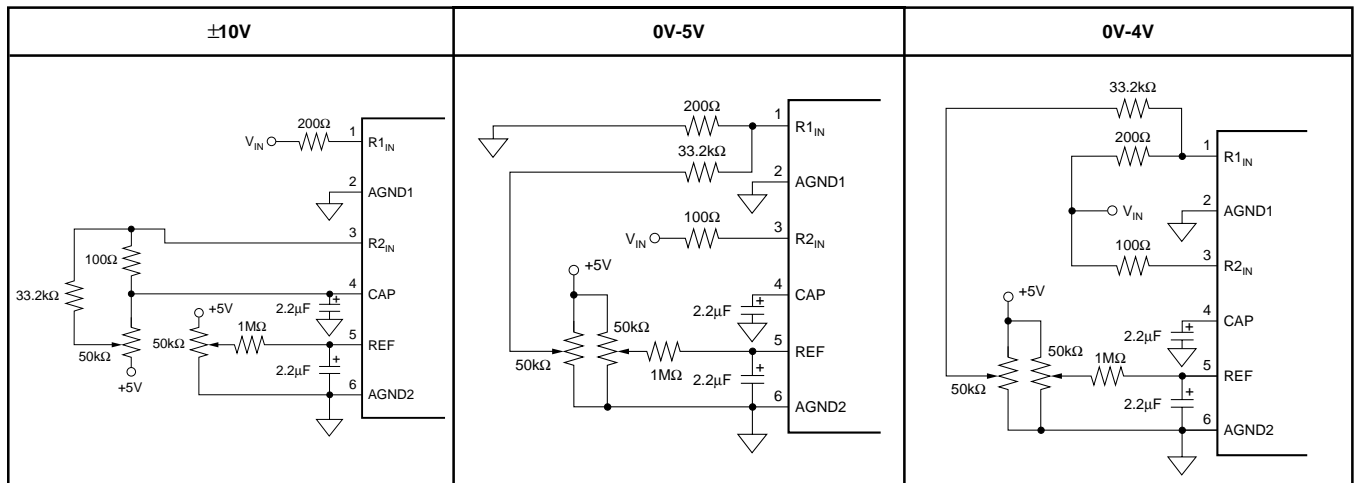
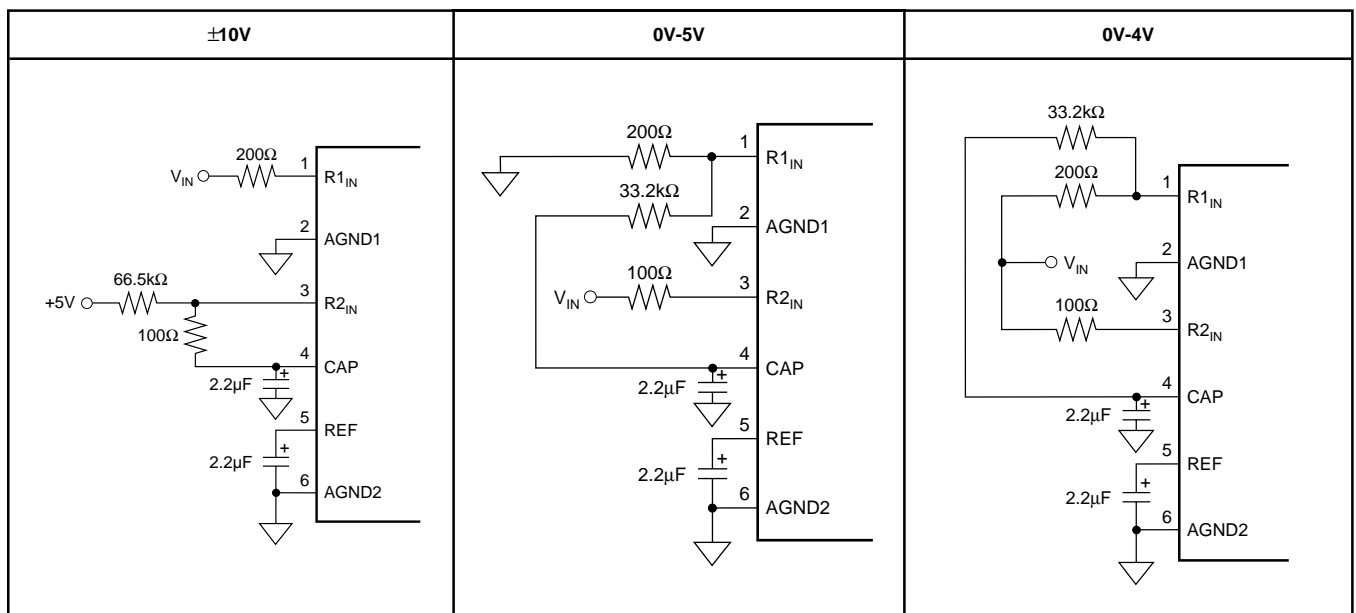
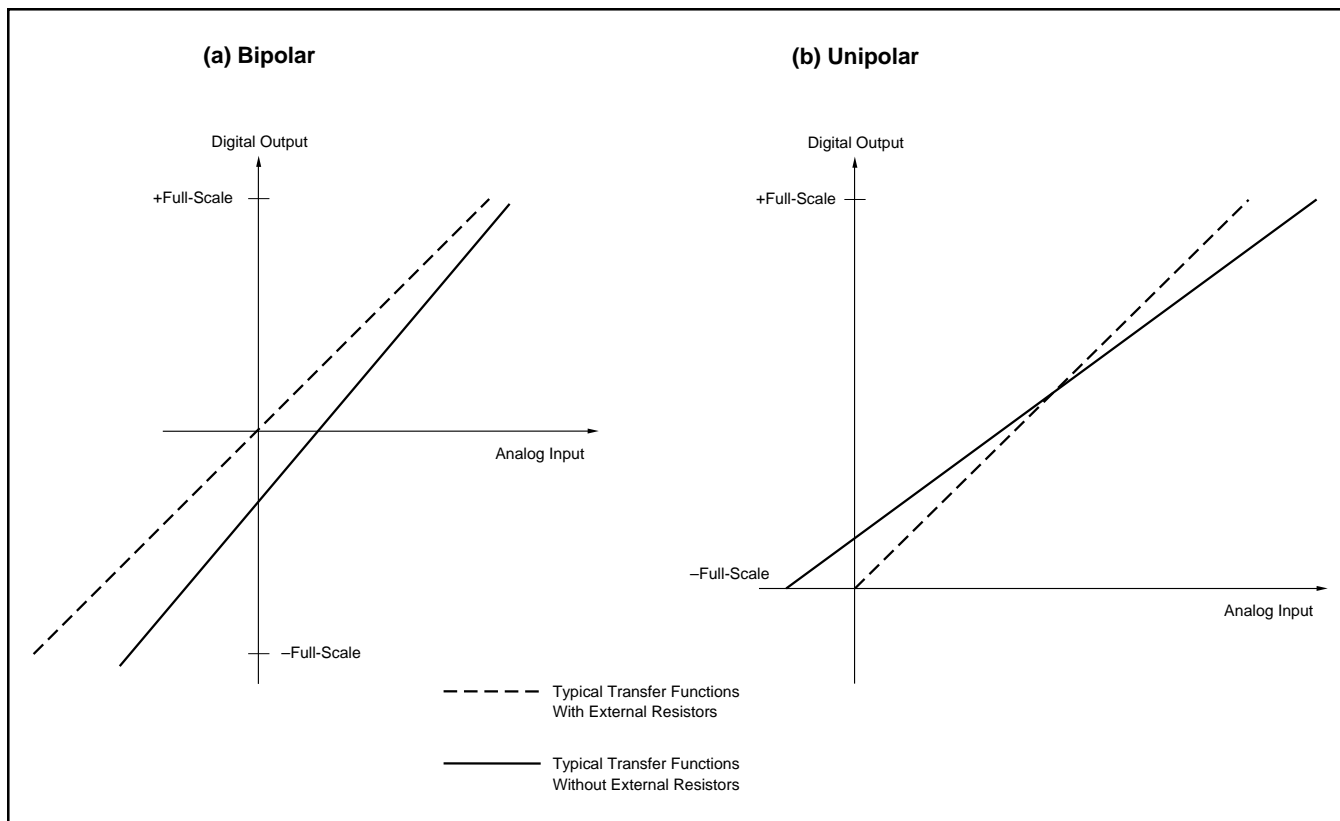

FIGURE 7a. Circuit Diagrams (With Hardware Trim).
FIGURE 7b. Circuit Diagrams (Without Hardware Trim).
FIGURE 8. Typical Transfer Functions With and Without External Resistors.
The ADS7806 offers three input ranges: standard  $\pm 10\text{V}$ ,  $0\text{V}-5\text{V}$ , and a  $0\text{V}-4\text{V}$  range for complete, single-supply systems. See Figures 7a and 7b for the necessary circuit connections for implementing each input range and optional offset and gain adjust circuitry. Offset and full-scale error(1) specifications are tested with the fixed resistors, see Figure 7b. Adjustments for offset and gain are described in the Calibration section of this data sheet.
each input range (see Figure 8). The input resistor divider network provides inherent over-voltage protection to at least  $\pm 12V$  on  $R_{1IN}$  and  $\pm 5.5V$  on  $R_{2IN}$ .
To calibrate the offset and gain of the ADS7806 in hardware, install the resistors shown in Figure 7a. Table VI lists the hardware trim ranges relative to the input for each input range.
To calibrate the offset and gain in software, no external resistors are required. However, to get the data sheet specifications for offset and gain, the resistors shown in Figure 7b
TABLE VI. Offset and Gain Adjust Ranges for Hardware Calibration (see Figure 7a).
Figure 7b shows circuit connections. Note that the actual voltage dropped across the external resistors is at least two orders of magnitude lower than the voltage dropped across the internal resistor divider network. This should be consid-
The external resistors, see Figure 7b, may not be necessary in some applications. These resistors provide compensation for an internal adjustment of the offset and gain which allows calibration with a single supply. Not using the external resistors will result in offset and gain errors in addition to those listed in the electrical characteristics section. Offset refers to the equivalent voltage of the digital output when converting with the input grounded. A positive gain error occurs when the equivalent output voltage of the digital output is larger than the analog input. Refer to Table VII for nominal ranges of gain and offset errors with and without the external resistors. Refer to Figure 8 for typical shifts in the transfer functions which occur when the external resistors are removed.